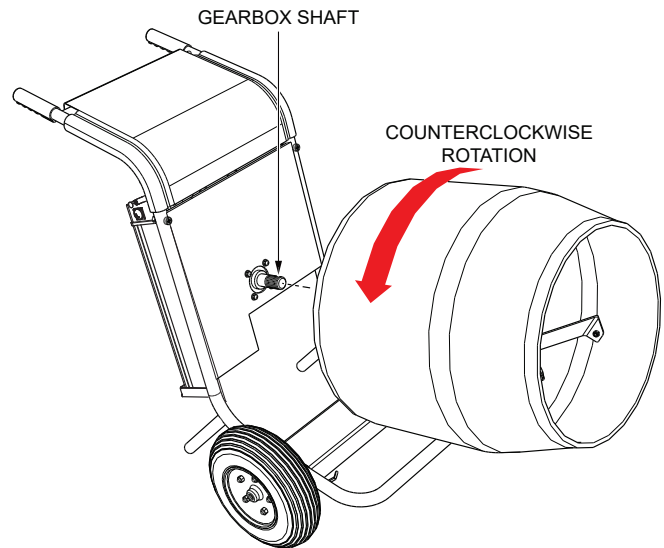

Figure 25. Mixing Drum Removal
2. If it is desired to remove the drum (Figure 25) from the mixer, turn the drum counterclockwise to remove it from the gearbox shaft.